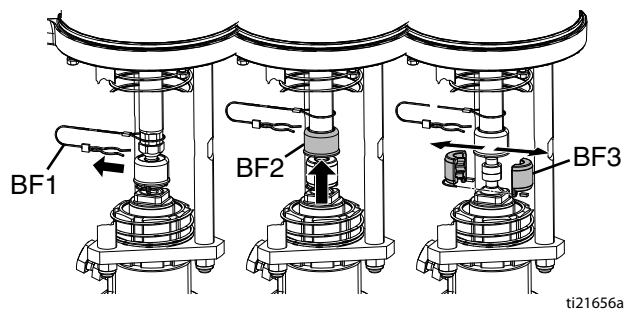

FIG. 38
7. While holding onto the inlet housing (BC), use a 5/8 in. wrench to loosen the two nuts on the inlet housing clamp (BB) then remove inlet housing (BC).
8. Remove inlet ball stop (BE).
9. Use 5/8 in. wrench (64) to loosen the two nuts on the cylinder clamp (BJ) then remove cylinder (BI).
10. Disconnect pump rod (BF). See FIG. 38.